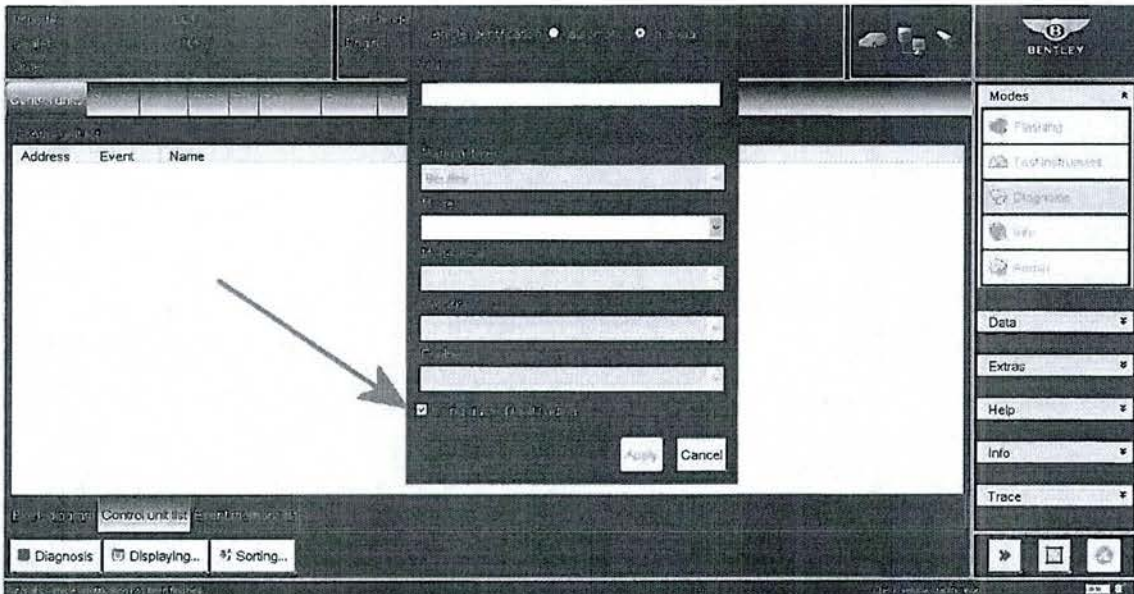

Figure 2
- Ensure the Using guided fault finding box is ticked (Figure 2) - follow all on screen prompts and allow the guided fault finding control module sweep to complete